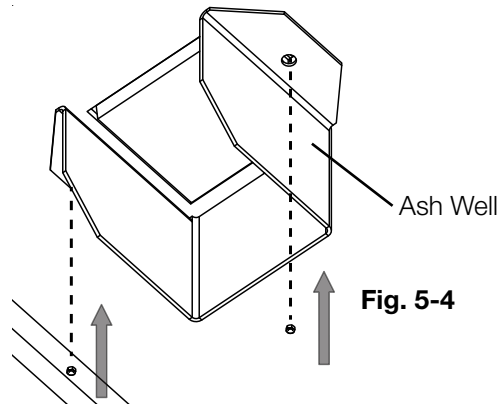

Fig. 5-4
3. Using the nuts from step 2, install the ash well where the cover plate used to be (**Fig. 5-4**).